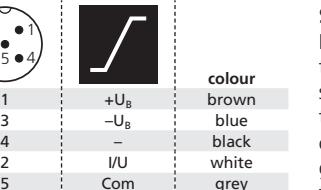

Fig. 1: Pin assignment with view onto sensor plug and colour coding of the microsonic connection cables
- Connect a connection cable to the M12 device plug, see Fig. 1.